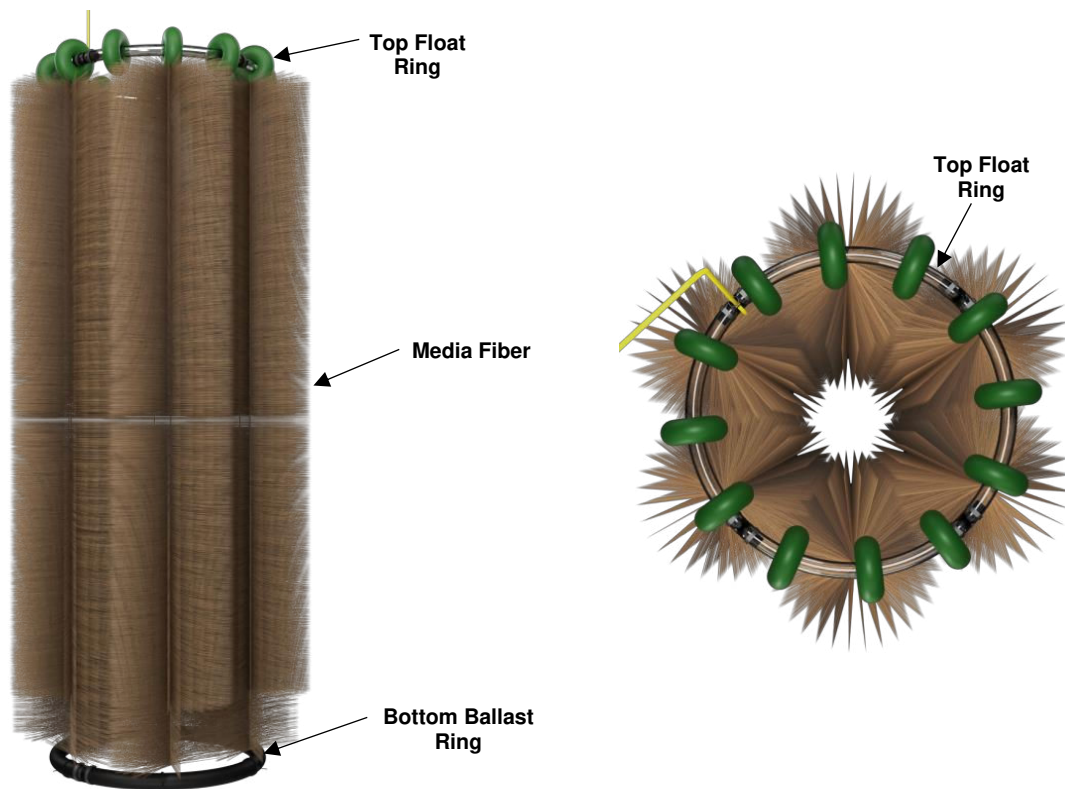
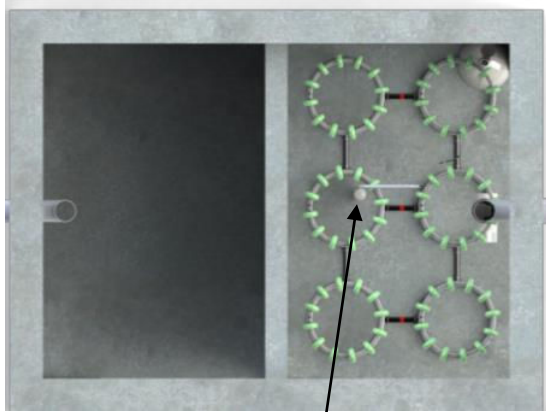
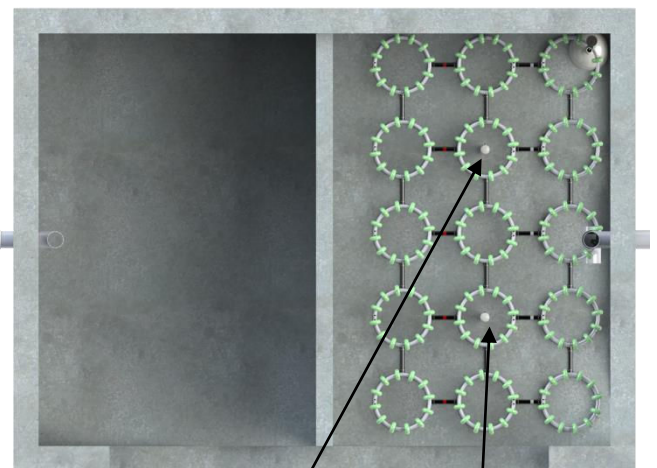
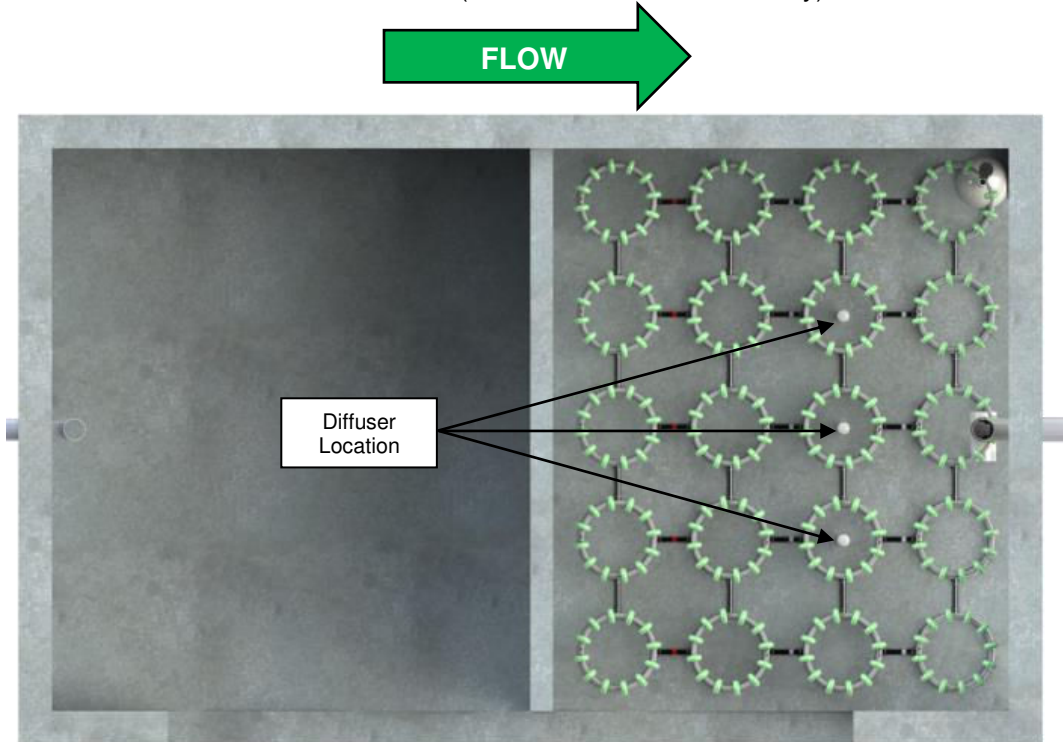

Figure 5, Single Bio-Brush Cluster
Figure 6, AS450-2 & AS500-2
Figure 9, AS1000-2
Figure 10, AS1500-2
1. Figure 5 above represents a single bio-brush cluster. The brush cluster is comprised of a top float ring, center media fibers, & the bottom ballast ring. Bio-brush clusters will need to be connected at the base (bottom ballast ring) as shown in Figure 6 through Figure 13. The process of connecting the brushes and rings is best completed inside the tank.
5. For AS450-2 and AS500-2 (Figure 6), AS600-2 (Figure 7), AS1000-2 (Figure 9), and AS1500-2 (Figure 10), the center-outlet side bio-brush cluster should be slid over the outlet housing as noted in Figure 15.